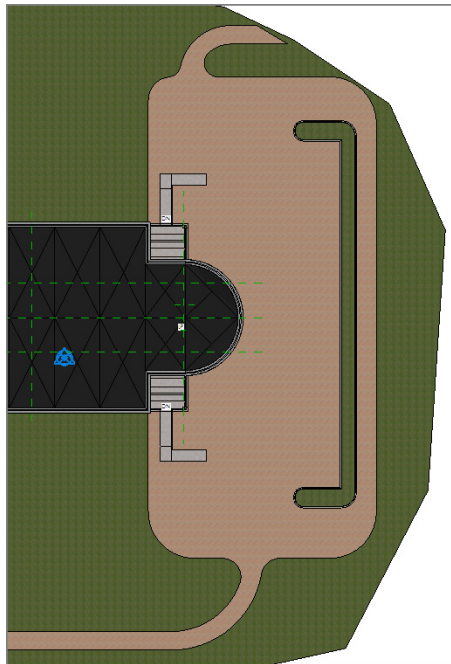

FIGURE 18.15: Adding the component to the parking lot
9. Place the parking island in a location similar to that shown in Figure 18.15. Note that you'll have to press the spacebar to orient the component correctly. Click Modify.
16. Click the Load Into Project button. Click Overwrite The Existing Version if prompted to do so. Your model should resemble Figure 18.15.